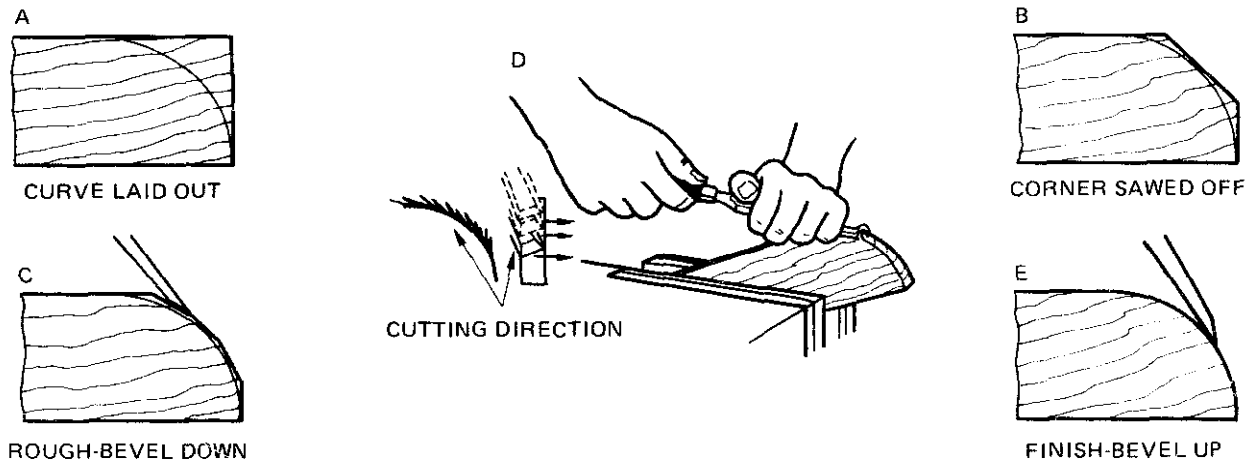

Fig. 9-25 Cutting sequence for forming a round corner.
1. Lay out a guideline for the curve to be cut, A, figure 9-25.
4. Finish with a series of paring cuts close together, each one tangent to the curve, as shown in D and E of figure 9-25. In making these cuts, the chisel is moved sideways across the work (see D) at the same time that it is moved forward, thus producing a shearing action.